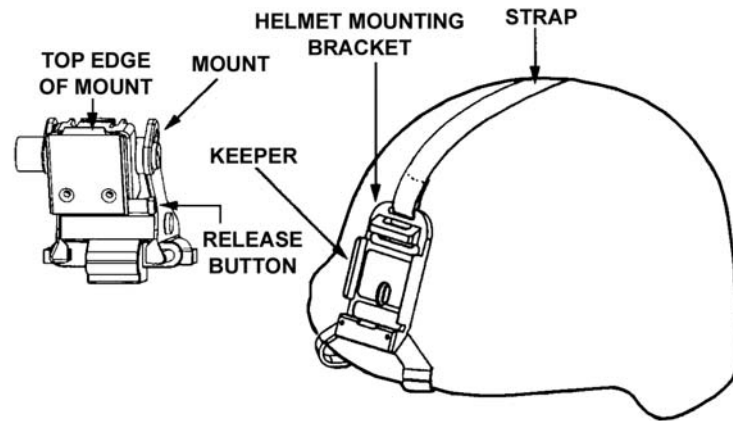

Figure 6. Helmet mount assembly.
- b. Don the helmet mount (Figure 6).